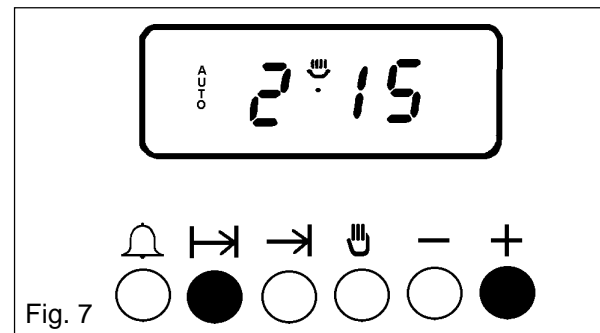

Fig. 7
- To set the length of cooking time, press the cooking hours button (⏸) while holding it down, press the increase control (+) until the required length of cooking time is displayed, e.g. 2 hrs 15 mins as Fig. 7. If necessary depress the decrease control (-) until the correct time interval is achieved.